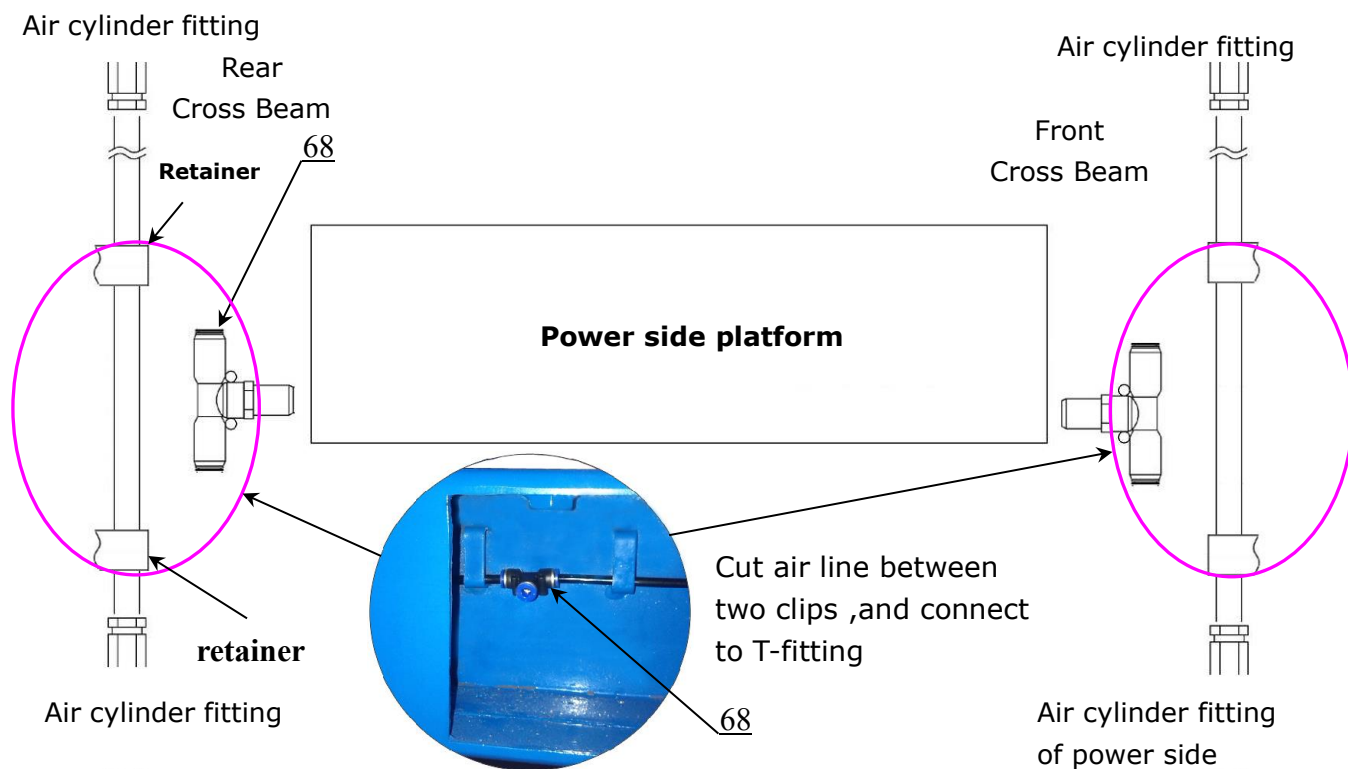

Fig.26
1. Cut $\phi 6 \times \phi 4$ black air line between two retainers, and then connect to T-fitting. (See Fig.26)
(See Fig.26)